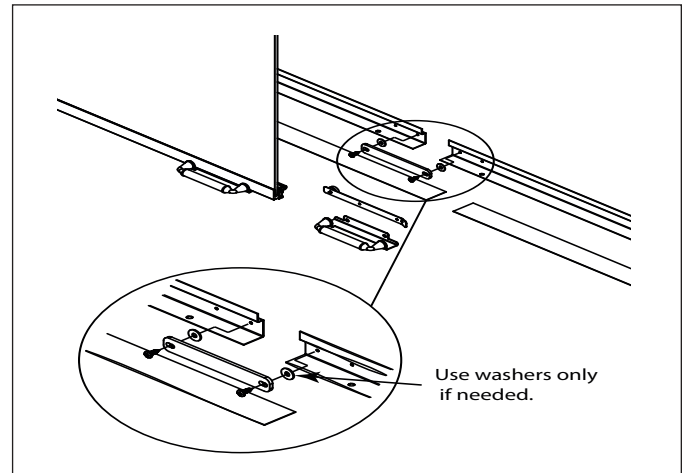

Figure 11
- Install the door latch with the (2) two 3/8" screws as shown in Figure 11. NOTE: Washers may be used to aid in adjustment.